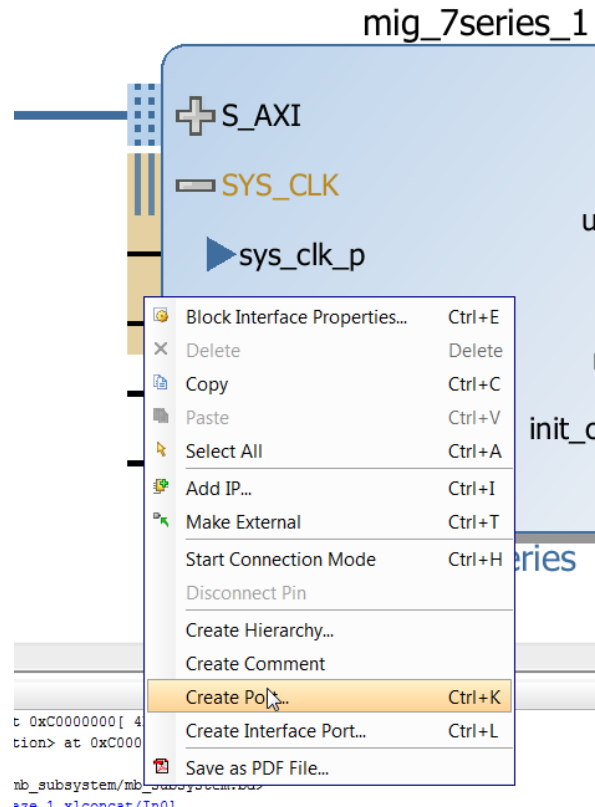

Figure 121: Create Port Option
2. Select the **sys_clk_p** port, right-click, and select Create Port (Figure 121).